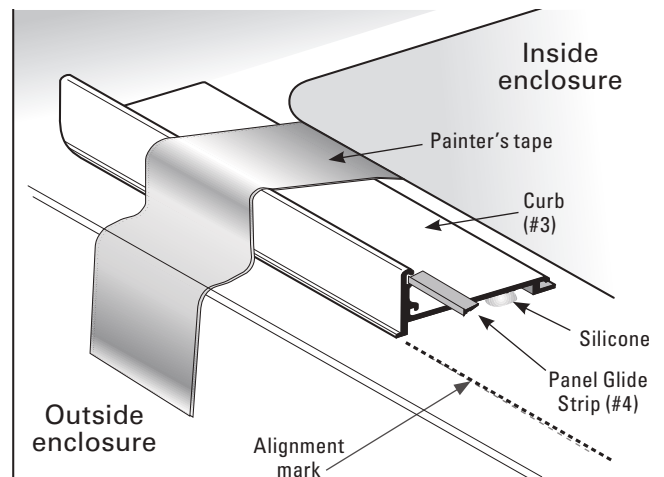

Figure 3
C. Locate the Curb. Remove the Panel Glide Strip from the Curb (See **Figure 3**).